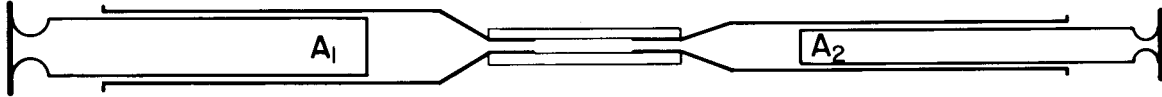

Figure 23. Two syringes coupled together to form a two-piston hydraulic system.
1. Use the syringes as a two-piston system, as shown in Figure 23. Demonstrate that matter is conserved as oil is transferred from one cylinder to the other. Measure the diameters of the two syringe plungers. Note that the syringes are marked for volume displacement in cc (cm^3).